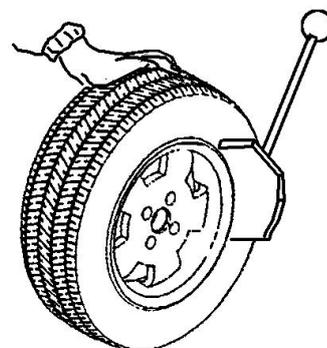

Fig.8
Position the bead breaker blade (R) against the tire bead at distance of about 1cm from the rim (fig.8)